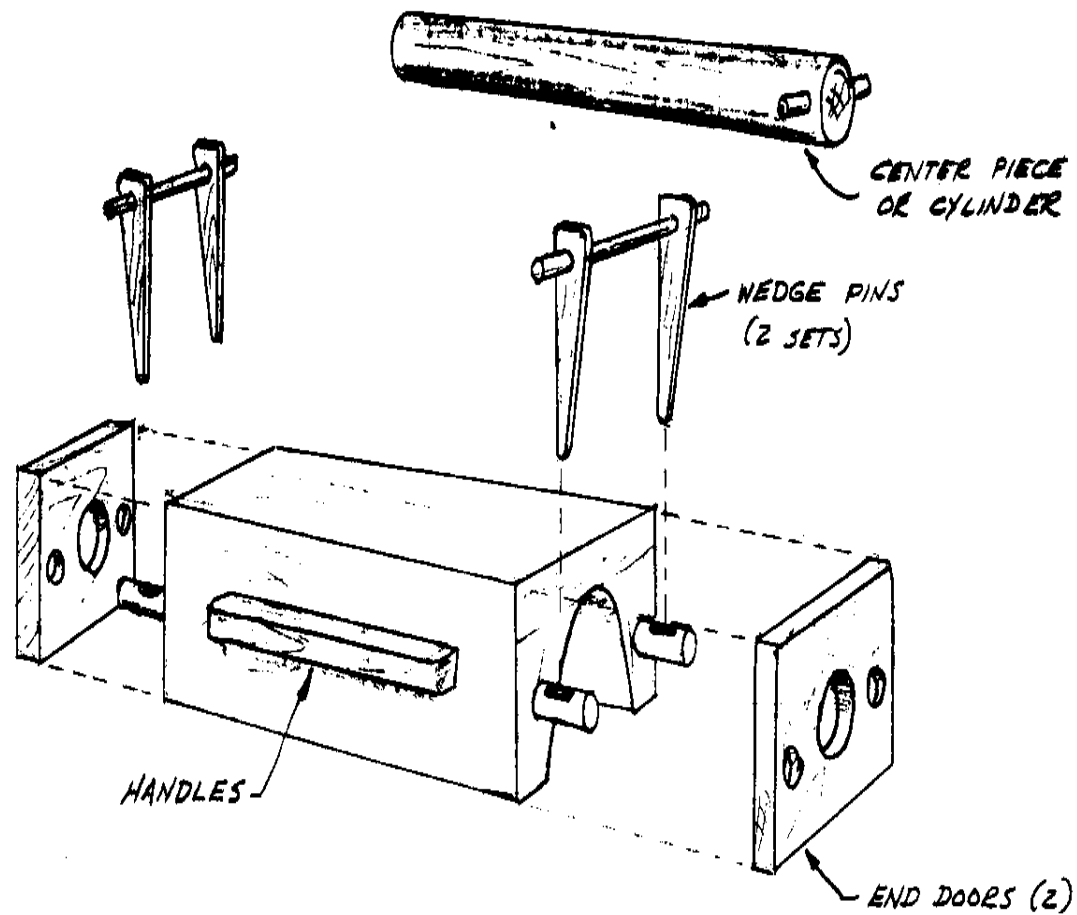

FIGURE 15 ALL-WOOD CEMENT-TILE MACHINE
**method can be adapted for the wooden tile-making machine in Figure 15 of the**